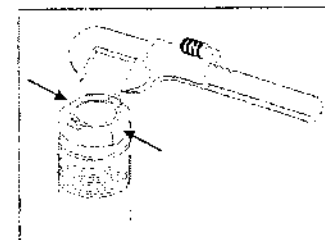

Fig. 9
- The pump should only be gripped by the two flats at the top of the pump, as shown in fig. 9.